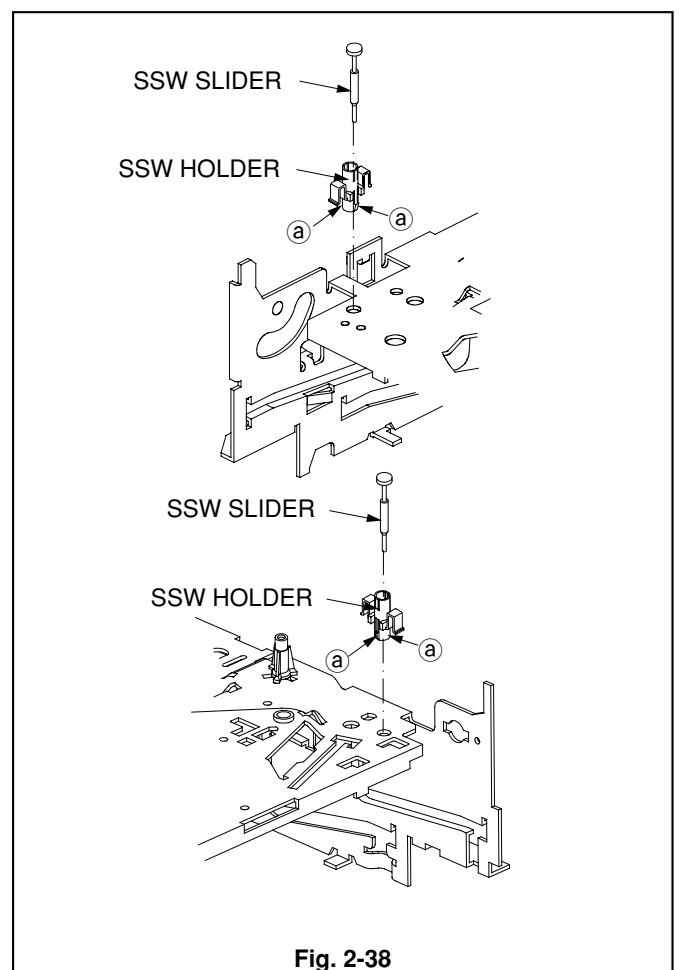

Fig. 2-38
1. Remove the SSW SLIDER shown in the Fig. 2-38 .
2. Unfasten the two catches (a) shown in Fig. 2-38, and remove the SSW HOLDER.
1. Install the SSW HOLDER shown in Fig. 2-38.
2. Install the SSW SLIDER shown in Fig. 2-38.